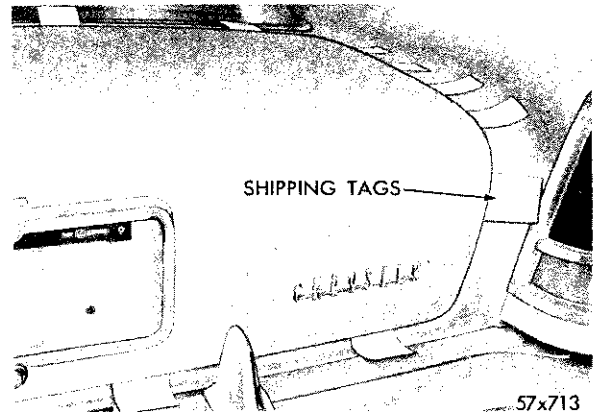

Fig. 31—Checking Seal of Deck Lid
k. Checking for a Correctly Fitted Deck Lid (Fig. 31)
A correctly fitted deck lid is one that is centered in opening, and fits flush with body panels. A check for proper fitting and seal of deck lid can be made with strips of paper. Insert strips of paper (about an inch wide) along edge of deck lid opening, close lid. (See Fig. 31). If papers fit snug all along edges of lid as they are pulled out, a good seal is evident. If paper fits loosely on one side, and tight on other, deck lid should be aligned.